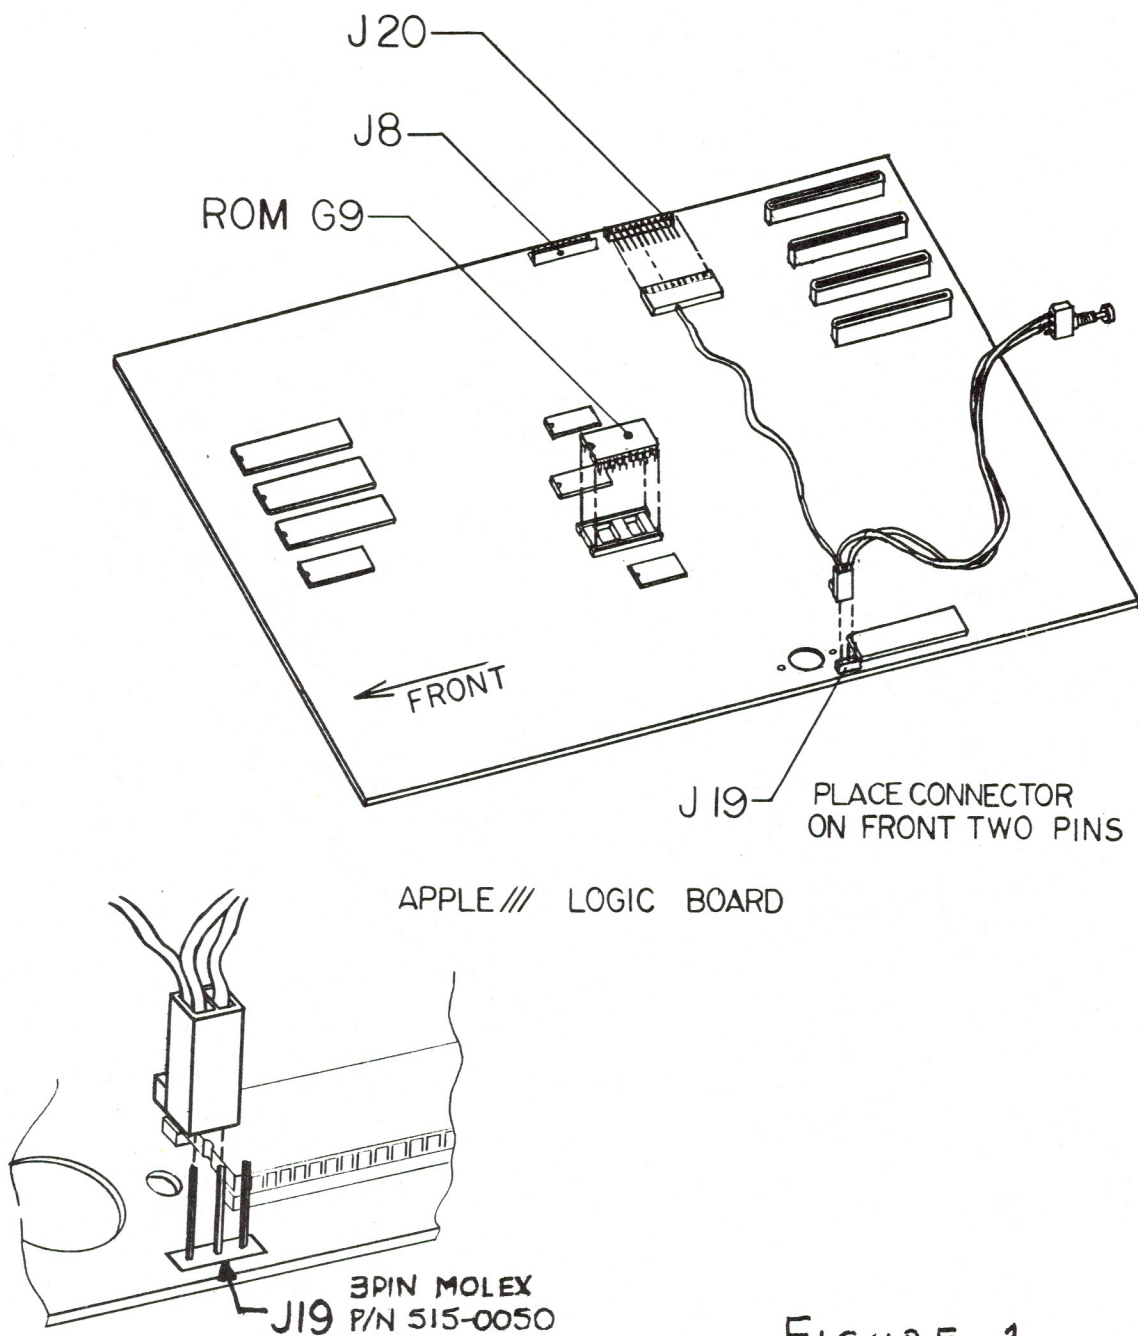

FIGURE 1
2. Place the Main Logic Board on a flat surface in front of you so that the 3 Pin Molex Connector at J-19 is located to your right. Refer to the illustration of the A/// Main Logic Board (Figure 1). Due to the fact that a small percentage of Main Logic Boards have had the 3 Pin Molex Connector at J-19 clipped, it is necessary to inspect the connector. If the 3 Pin Connector has not been clipped then proceed with the installation instructions. If the Main Logic Board has had the 3 Pin Connector clipped you will need to obtain a Main Logic Board with the connector in place.
3. Locate the IC socket at G-9 and remove the old IC. Insert the New IC into the empty socket with the notch on top of the chip facing toward the front as shown in Figure 1.
6. Reinstall the Main Logic Board. Be sure the two pin Molex connector is connected to the lower pins of the 3 pin Molex connector at J-19 such that the lowest pin (refer to Figure 1) marked pin #3 has two wires going to it. Note the orientation of the ten pin Molex connector so that the 4th pin marked pin #7 at J-20 is connected.